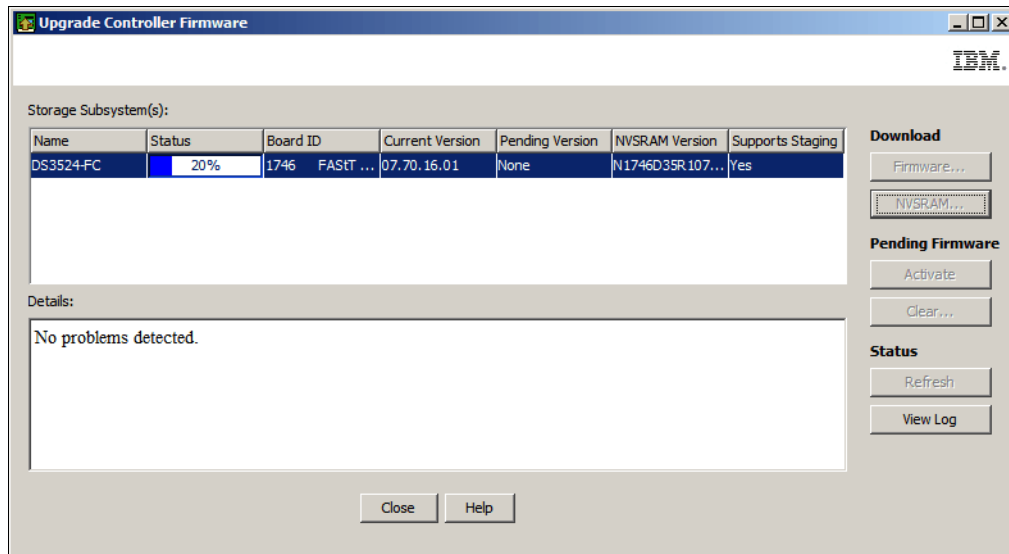

Figure 14-44 Firmware upgrade in progress
- b. The firmware upgrade tool will begin transferring the firmware images to the controllers. The status can be monitored in the tool (Figure 14-44).